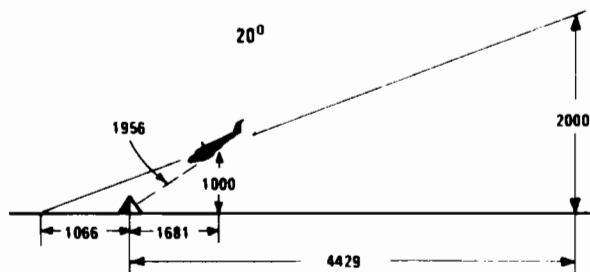

Figure 6-9
(1) Downwind. Safe all switches and then set the switches and power the same as for dive bomb. Do not forget to change the mil setting. Figure 6-9 depicts a typical low angle bomb pass.